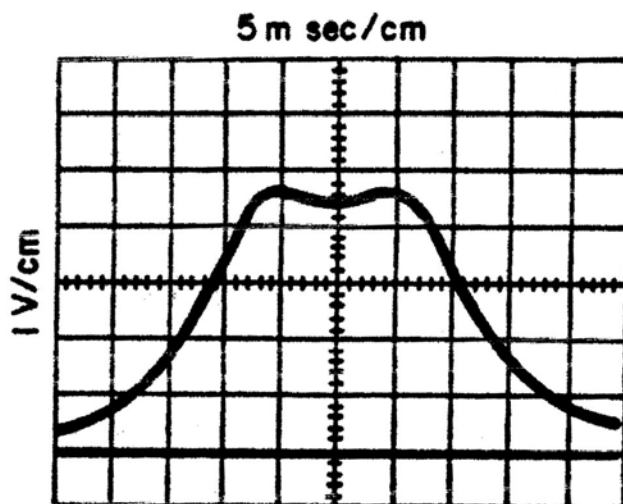

Figure 4-6. 455 kHz Amplifier/AM Detector Response Alignment, Typical Response
- Adjust A4A7L2 and A4A7L3 for an Oscilloscope waveform which has maximum amplitude and is symmetrical about the marker. See Figure 4-6 for a typical waveform.